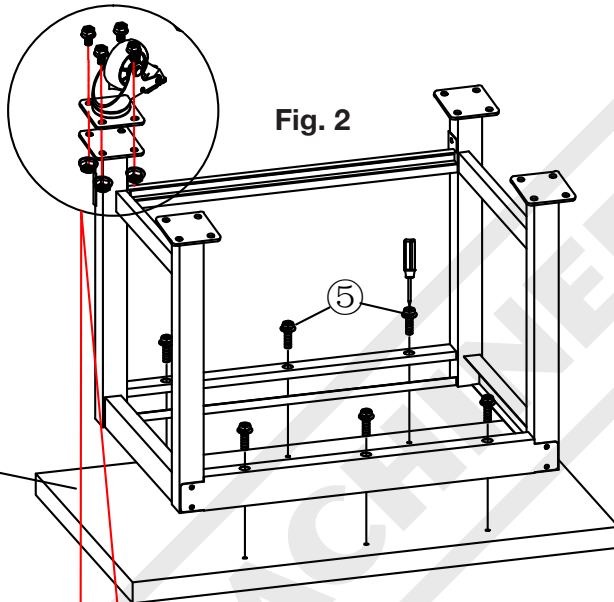

Fig. 2
Step 3: Place the top (1) upside down, then put the assembled bench frame on top (also upside down). As shown in (Fig.2).
Step 4: Align the assembled bench to the top (1) and connect with short screws (5). Ensure all parts are tightly fixed together. As shown in (Fig. 2).